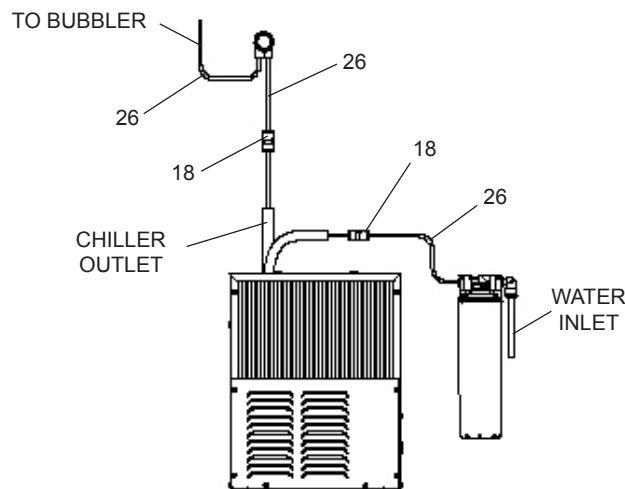

Figure 4 - LRPB Tube Routing
4. **LRPB Models:** Mount filter head assembly to side of chiller (See Figure 4). Make connections between filter and building supply line (3/8" O.D. tube not provided). Inlet port is marked on the chiller (1/4" O. D. copper tube). Install a 1/4" x 1/4" union (provided) on the marked chiller inlet port. Insert the 1/4" poly tubing (provided) into the fitting on filter and connect the union to the chiller. (See Figure 4)